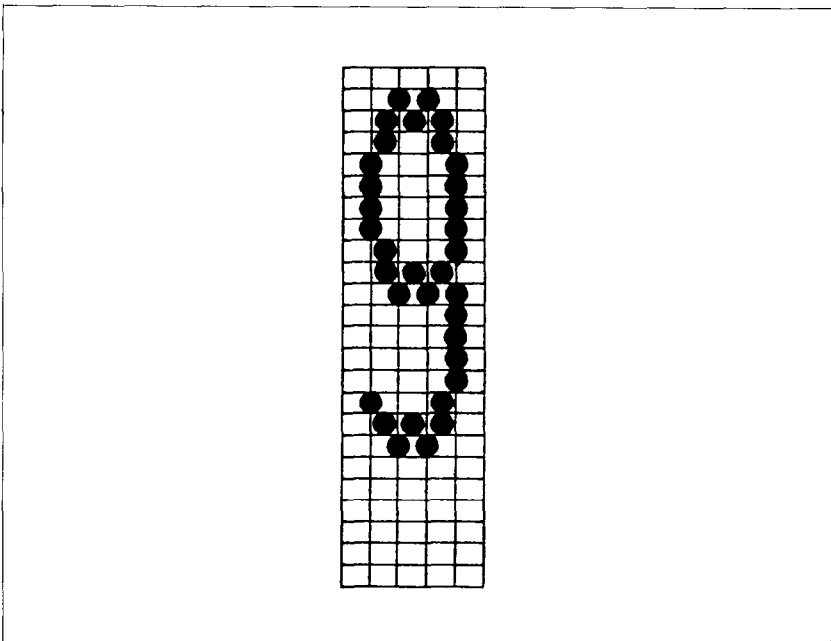

Figure 7-2. Dots can be inside boxes or straddle the vertical lines of the grid.
- Horizontally, dots may be centered in a box, or may straddle a line, making the actual character grid 9 dots wide by 24 dots high. Vertically, dots can only be centered in a box. See Figure 7-2.